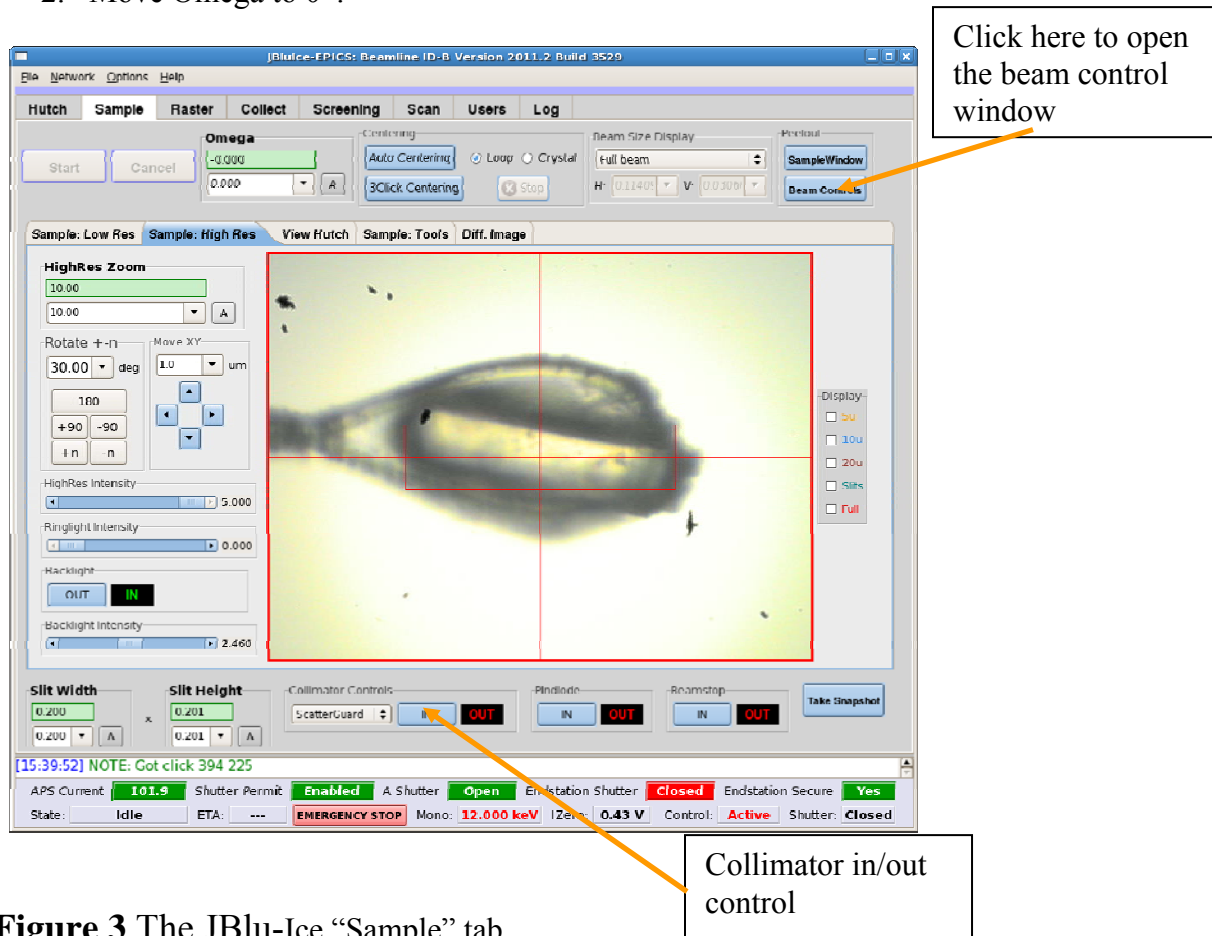

Figure 3 The JBlu-Ice “Sample” tab.
1. Take the collimator out with “Sample” tab in JBlu-Ice (Fig 3).
11. Beam position can be adjusted by sliding bars in a separate window which can be launched by clicking on “Beam Controls” in the JBlu-Ice “Sample” tab (Fig. 3). **Important!** Sliding bars are very sensitive, so move them carefully. For finer adjustments, click in the fields on either side of the slider.
12. Repeat centering at the high zoom value (14) of the High Resolution camera and make sure the camera is focused on the YAG (next step)